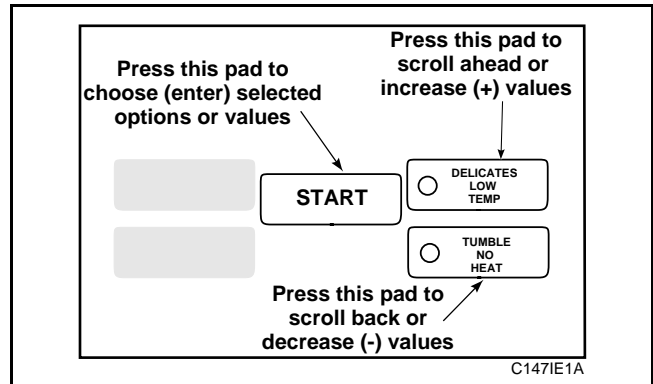

Figure 66
5. Press the LOW TEMP (+) pad or the NO HEAT (-) pad to increase or decrease the current number of minutes to the desired number of minutes, *Figure 66*.